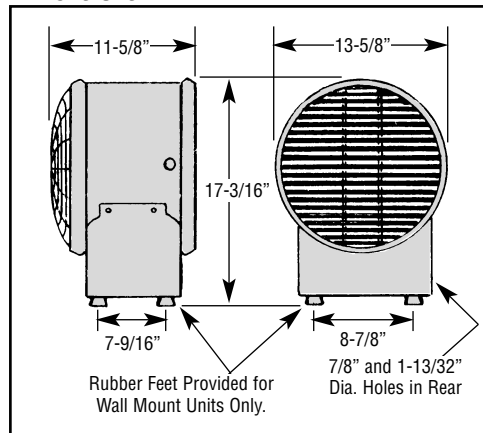

Figure 1
- In either case, minimum mounting height is 7 feet from floor to bottom of heater. (See Figures 1 and 2.)